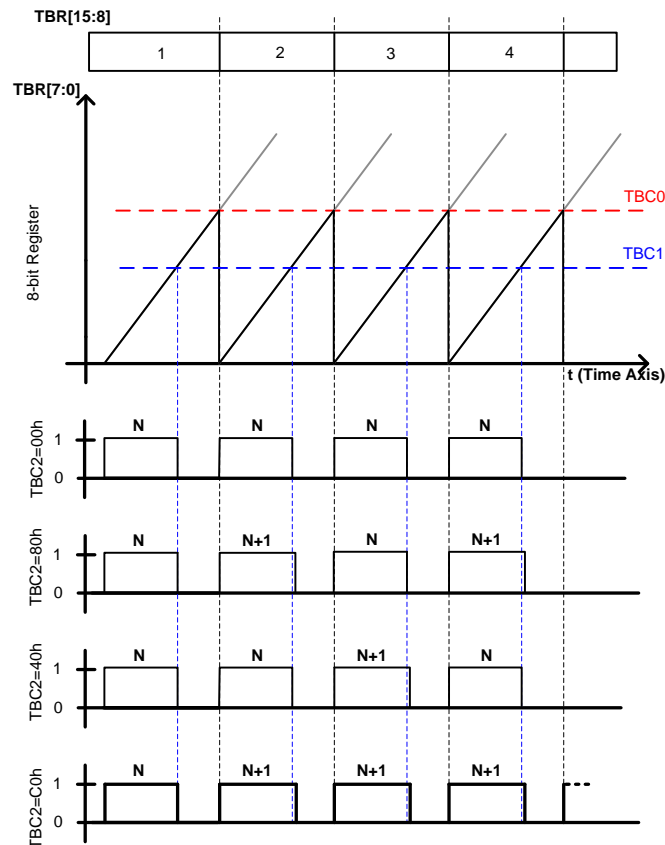

Figure 9-6 8+8-bit PWM Output Waveform Schematic Diagram
- ◆ Following Table 9 -2 and Figure 9-6 sections list 8+8-bit PWM waveform changing of TB1C1H[15:8] under different setting for user's reference.